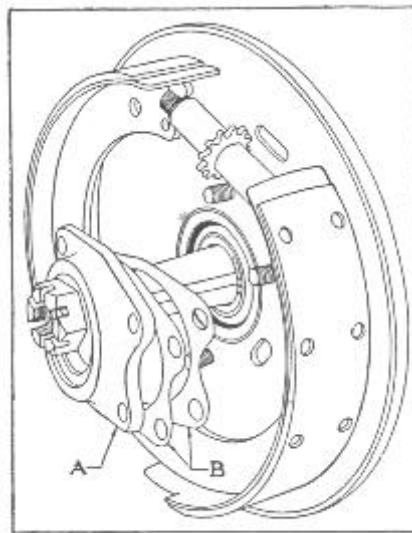

Figure 10
To adjust rear wheel bearings, jack up rear axle and remove both rear wheels and hubs. Remove the four nuts from bearing cap (A), Figure 10, and remove cap. By removing shims (B) under the cap the end play of the axle shaft is decreased. Total play between axle shafts should be from .005" to .010", which is perceptible by pulling shaft in and out with the hand. It is necessary that the thickness of shims at each rear wheel be approximately the same, so when adjusting remove a thin shim from each side and repeat, if necessary, until only a slight amount of play is evident. Be sure the axle shafts turn freely before building up.